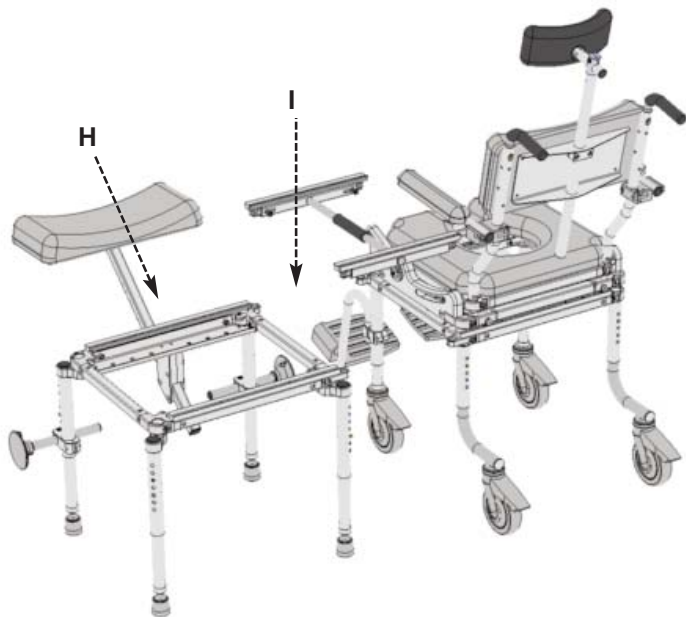

Figure 3
**H** The calf support assembly is simply slide into the mounting block (Refer to figure 3), and be adjusted by sliding it within the mounting block than then pushing it down to engage one of the bottom slots on the square tube.
**I** Place the **connector bridge** into the matching holes on both the roll-in section and tub section (Refer to Figure 3).